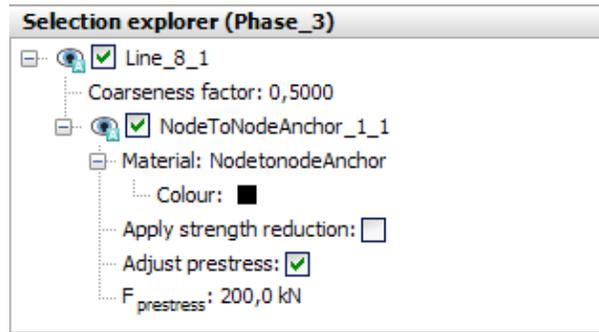

Figure 33: Node-to-node anchor in the Selection explorer
12. Click on the **Adjust prestress** checkbox. Enter a prestress force of 200kN as displayed in Figure 33 (on page 54).